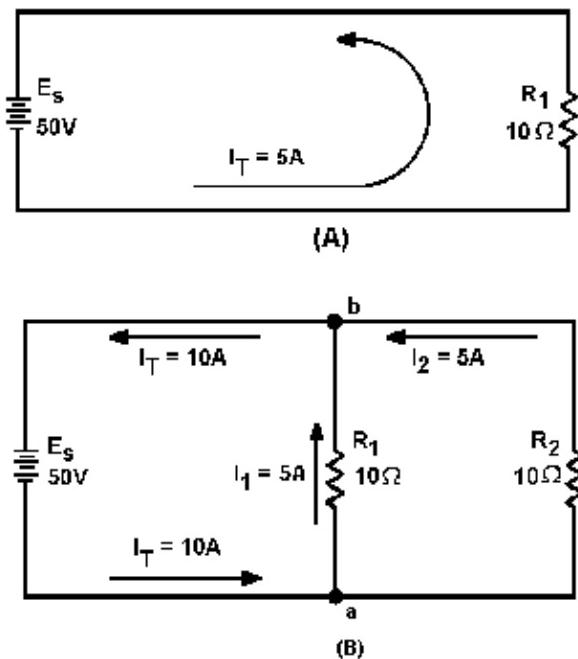

Figure 3-40.—Analysis of current in parallel circuit.
Part (A) of figure 3-40 shows a basic series circuit. Here, the total current must pass through the single resistor. The amount of current can be determined.
Part (B) of figure 3-40 shows the same resistor (R_1) with a second resistor (R_2) of equal value connected in parallel across the voltage source. When Ohm's law is applied, the current flow through each resistor is found to be the same as the current through the single resistor in part (A).
The total current of 10 amperes, as illustrated in figure 3-40(B), leaves the negative terminal of the battery and flows to point a. Since point a is a connecting point for the two resistors, it is called a JUNCTION. At junction a, the total current divides into two currents of 5 amperes each. These two currents flow through their respective resistors and rejoin at junction b. The total current then flows from junction b back to the positive terminal of the source. The source supplies a total current of 10 amperes and each of the two equal resistors carries one-half the total current.
Each individual current path in the circuit of figure 3-40(B) is referred to as a BRANCH. Each branch carries a current that is a portion of the total current. Two or more branches form a NETWORK.
Compare part (A) of figure 3-41 with part (B) of the circuit in figure 3-40. Notice that doubling the value of the second branch resistor (R_2) has no effect on the current in the first branch (I_{R1}), but does reduce the second branch current (I_{R2}) to one-half its original value. The total circuit current drops to a value equal to the sum of the branch currents. These facts are verified by the following equations.